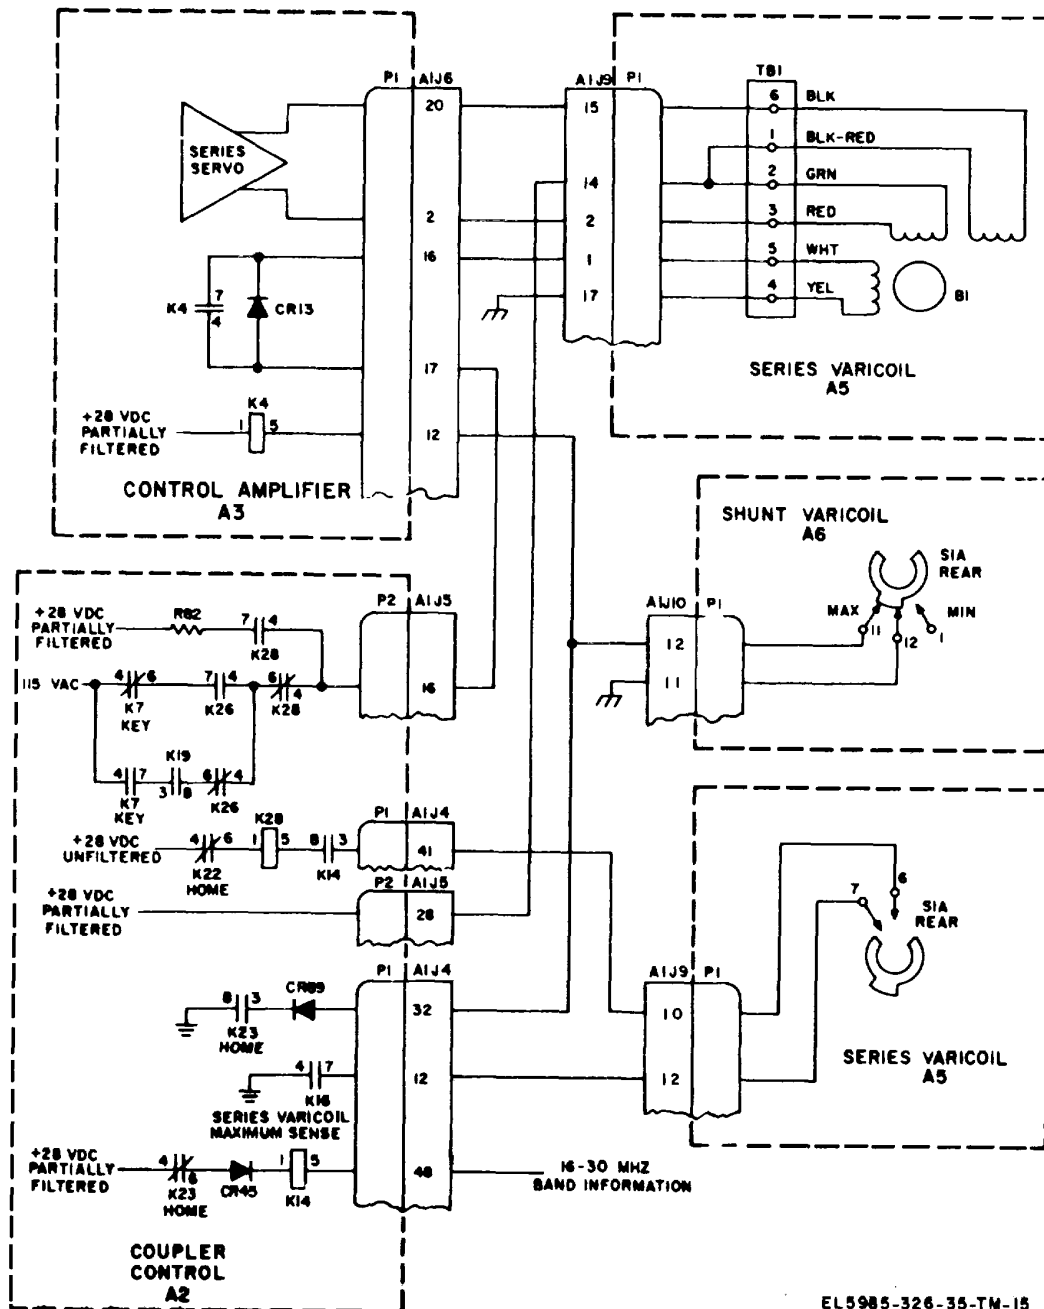

Figure 2-15. Series Varicoil A5 Motor Circuit, Simplified Schematic Diagram.
b. To prevent self-resonance, series varicoil A5 is limited to approximately half its total inductance when operating within the 16 to 30-MHz band. Relay A2K14 is operated by the 16 to 30-MHz band information circuit (fig. 2-15). Relay A2K28-5 is operated when grounded through A2K16-4 and -7, A5S1A-6 and -7, and A2K14-3 and -8. The 115-volt ac line to the reference windings of series varicoil drive motor A5B1 is opened by relay contacts A2K28-4 and -6. Motor A5B1 is braked dynamically when the +28-volt dc circuit is completed (through the reference windings) by relay contacts A2K28-4 and -7. Shunt capacitance is added if series varicoil A5 reaches the limit and the antenna circuit is not resonant. Shunt capacitor drive motor A7B1 operates when the base bias circuit of A2Q7 is grounded through A2K16-4 and -7, A5S1A-6 and -7, A2K14-3 and -8, A2CR24, and A2R27. Shunt capacitor A7 continues to operate until the antenna circuit is resonant (A2K16 restored) or until maximum capacitance is obtained. The antenna coupler will fault in approximately 10 seconds after maximum capacitance is reached.